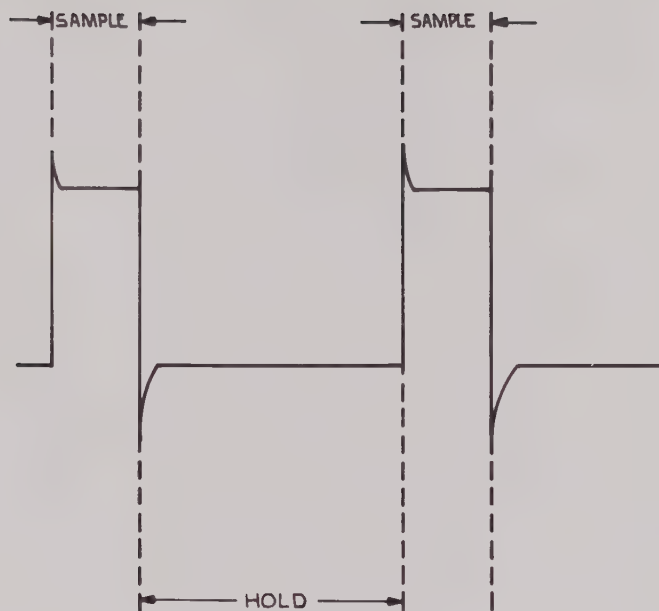

FIGURE 6.5
6.5.3 Jump Adjustment (Figures 6.5, 6.6)